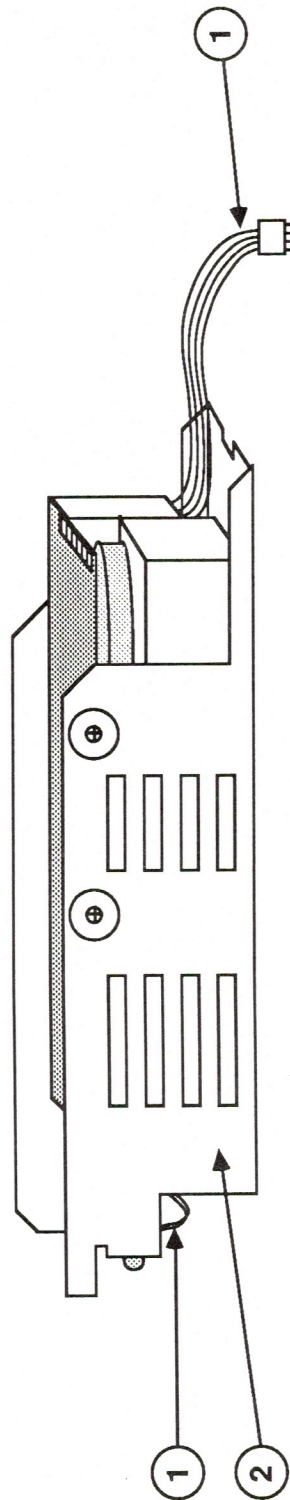

FIGURE 8
IPL.15	Internal HDA (Figure 8)
□ **MACINTOSH SE – INTERNAL HDA (Figure 8)**